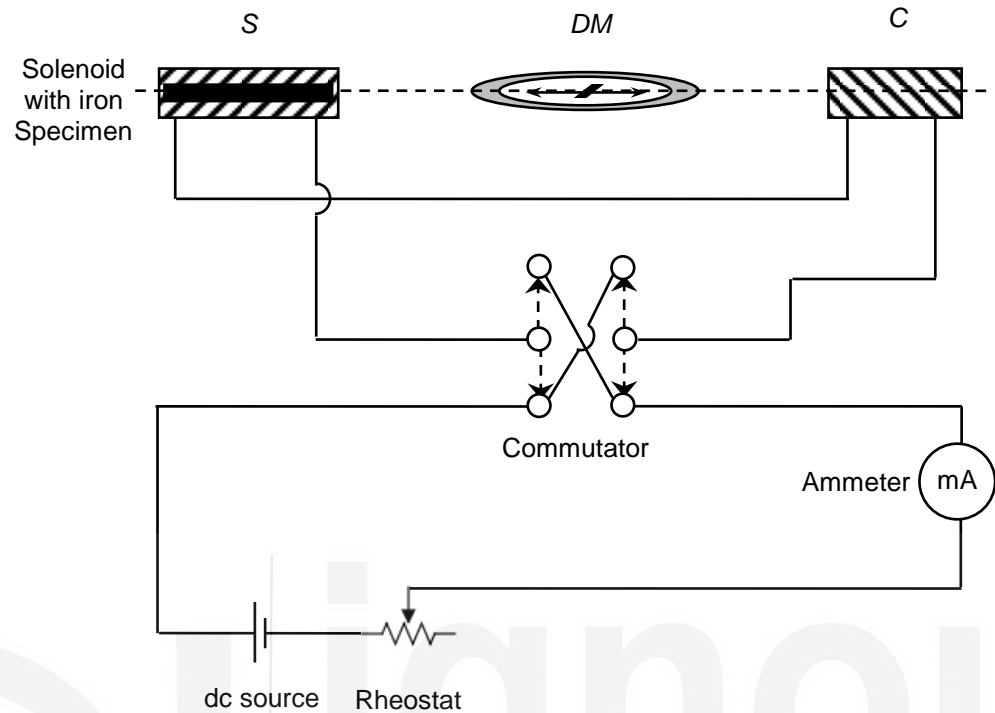

Fig. 2.8: Circuit diagram to study variation of deflection in the magnetometer with current.
4. The circuit diagram to study variation of field with current is shown in Fig. 2.8. The solenoid is connected in series with the compensating coil through a commutator, to a power supply, ammeter and rheostat. You should place the solenoid so that it is at a larger distance from the centre of the magnetometer compared to the compensating coil. This is to ensure that the deflection of the needle in the compass box of the magnetometer